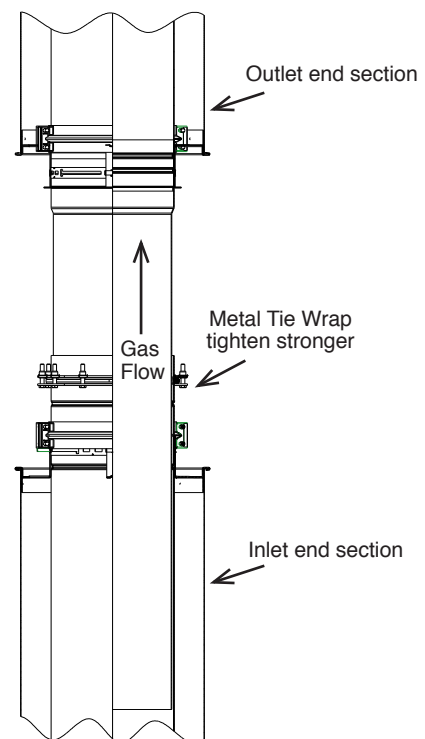

Figure 17 - Installation of Adjustable Length Steps 3 & 4
4. Strongly tighten the metal tie wraps so that the graphite packing is firmly compressed against the inner flue. See Figure 17.